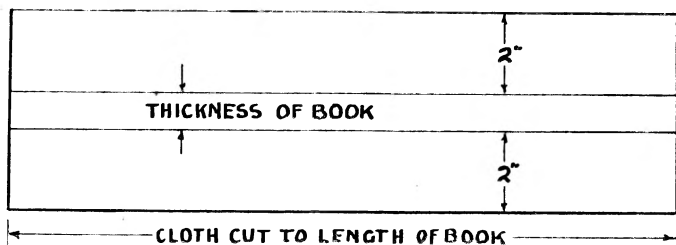

Fig. 111
COVERING THE BACK WITH CLOTH. 13. Cut a strip of cloth the same length as the boards. The width must be sufficient to cover the back and to overlap on to each side for 2", i.e., the width of the cloth is 4" plus the thickness of the book, fig. 111.
14. Mark the cloth on the reverse side with two lines down the centre, their distance apart being equal to the thickness of the book, fig. 111.